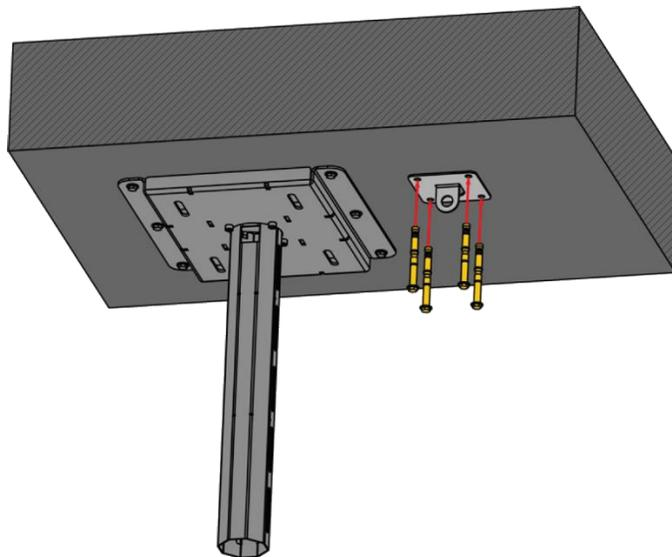

Figure 74
2. Fasten the safety anchor ⑦ near the ceiling plate ① by using the anchor bolts ⑪ (4 pcs.), as shown in **Figure 74**.